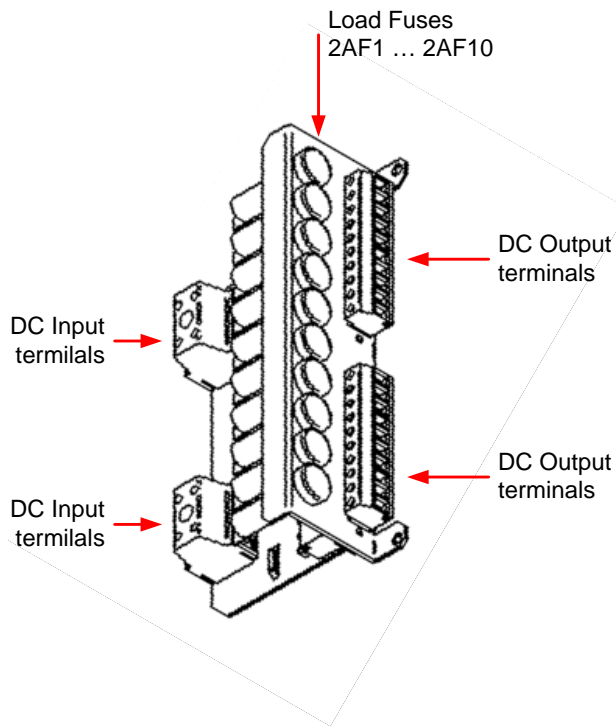

Figure 4. ODPS 2000B-48-4 Load Fuse Panel.
- Step 1 Check if the ground base is well prepared for the installation (horizontal level, dimensioning of the mounting holes or screws, (Fig 4)